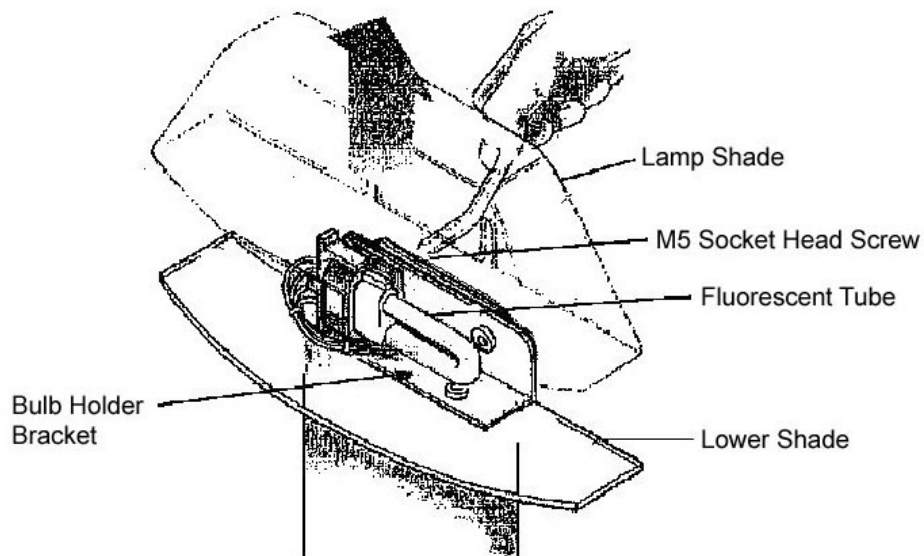

Figure 1: Removal of Lamp Shade
1. Remove the lamp shade by loosening two M5 socket headed bolts with an Allen key (see Figure 1).